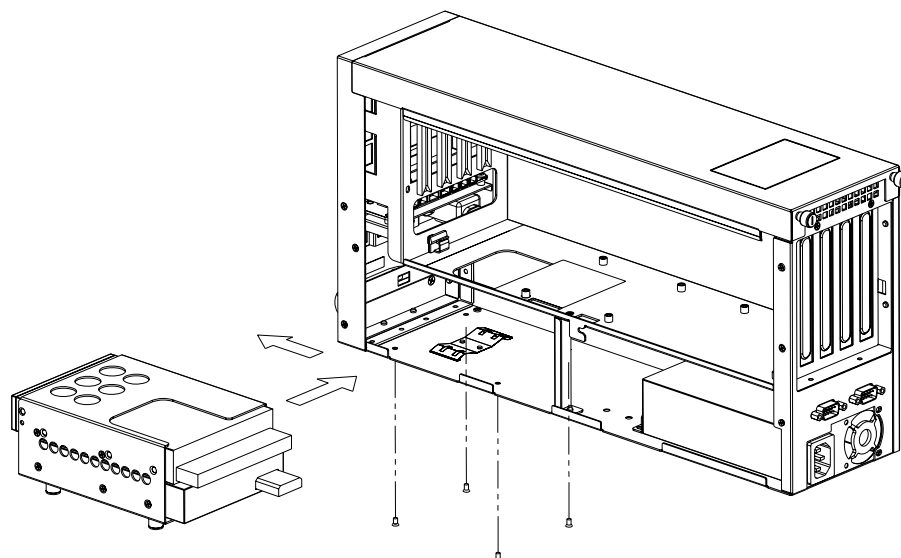

Figure 2.9 Installing 3.5" FDD or HDD disk drive
3. Return the disk drive bracket with the disk drive in the original position and fasten it with the screws (Figure 2.9).